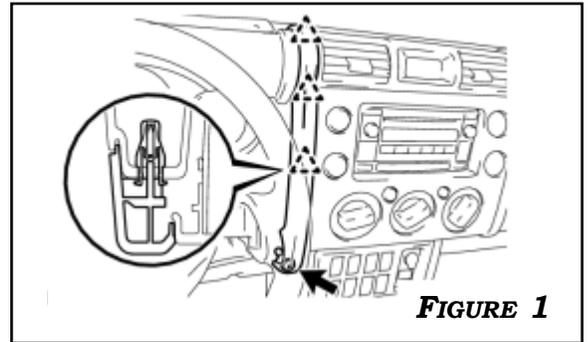

FIGURE 1
1. REMOVE SCREW. DISENGAGE THE 3 CLIPS AND REMOVE THE LEFT INSTRUMENT PANEL GARNISH. REPEAT THE SAME STEPS TO REMOVE THE RIGHT INSTRUMENT PANEL GARNISH. **NOTE: PULL THE INSTRUMENT PANEL GARNISH UP AT AN ANGLE OF 45° TO REMOVE IT. DO NOT DAMAGE THE SURFACE OF THE INSTRUMENT PANEL WHEN REMOVING IT. FIGURE 1**